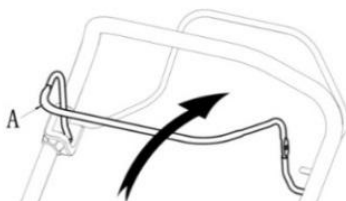

Fig.11B
2. Pull the engine brake lever towards the handle; Fig.11B.